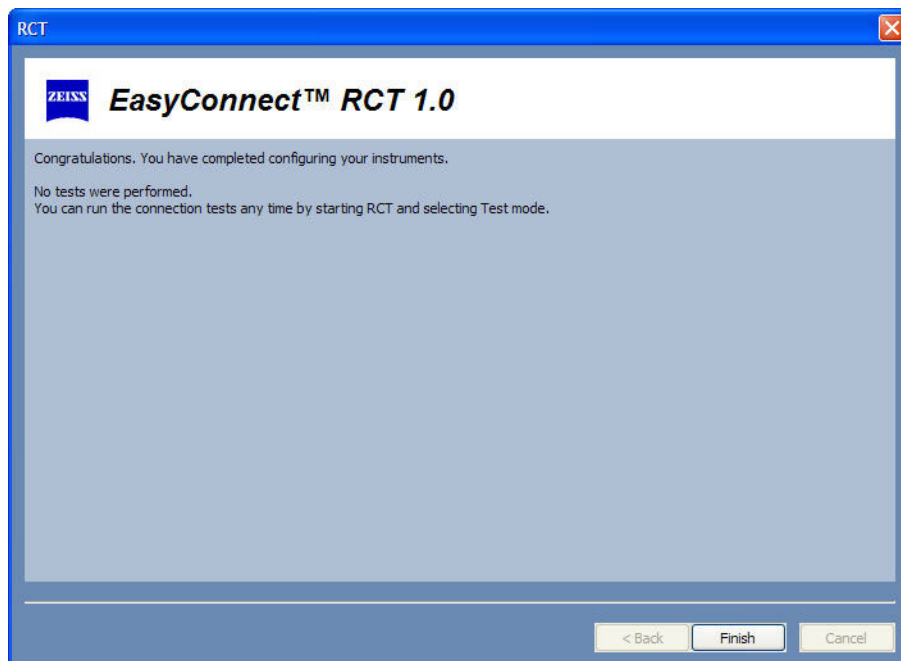

Figure G.35 Completion Screen (No connection tests)
- 11 If the PERFORM CONNECTION TESTS button was *not* selected (default), then after selecting NEXT on the Commit screen, a final Completion screen will be displayed (Figure G.35). If you selected PERFORM CONNECTION TESTS, then each selected instrument will be tested before a final Completion screen will be displayed (See Steps 3–5 in the Test mode section, page G-38–G-42). *Each connection test could take several minutes.* Select FINISH to exit the RCT.